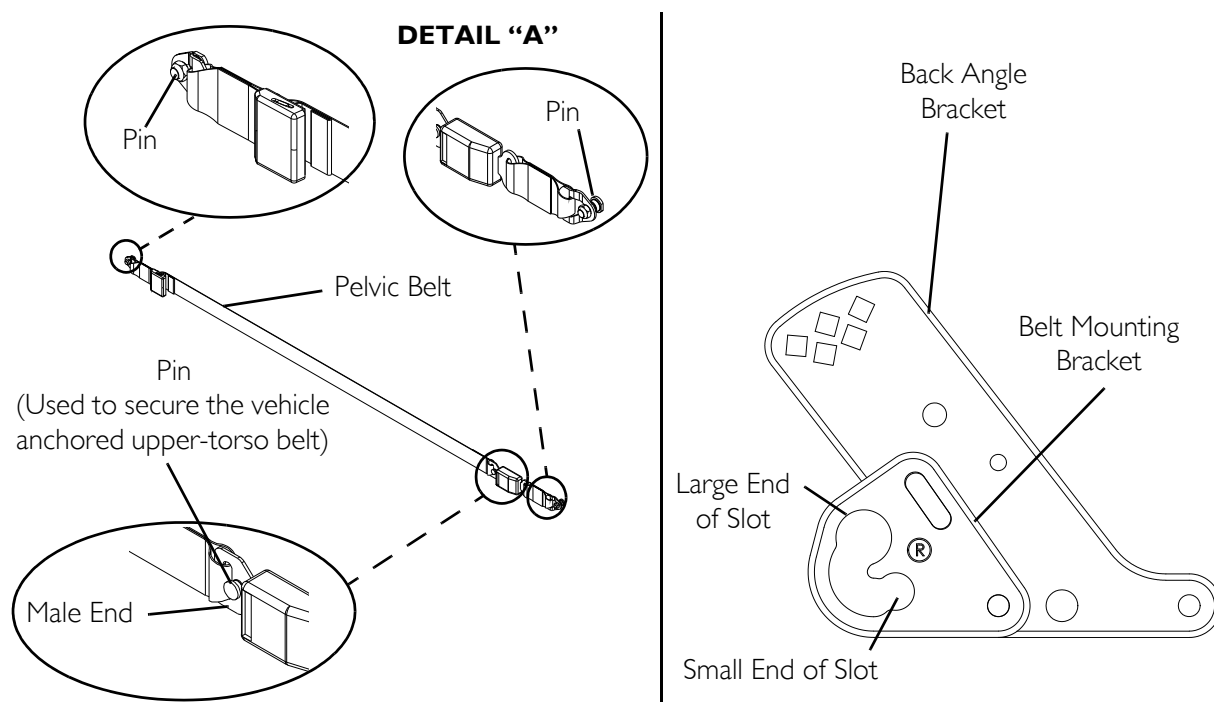

FIGURE 14.2 Wheelchair-Anchored Belts
NOTE: For this procedure, refer to FIGURE 14.2.
1. Install the pelvic belt pin (Detail "A" of FIGURE 14.2) into the large end of the slot in the belt mounting bracket. Rotate downward and forward until it snaps into place into the small end of the slot.
NOTE: Note the position of the male end of the belt when installing the pelvic belt onto the belt mounting brackets. The male end of the pelvic belt (Detail "A" of FIGURE 14.2) has a pin which is used to secure the vehicle-anchored upper-torso belt.